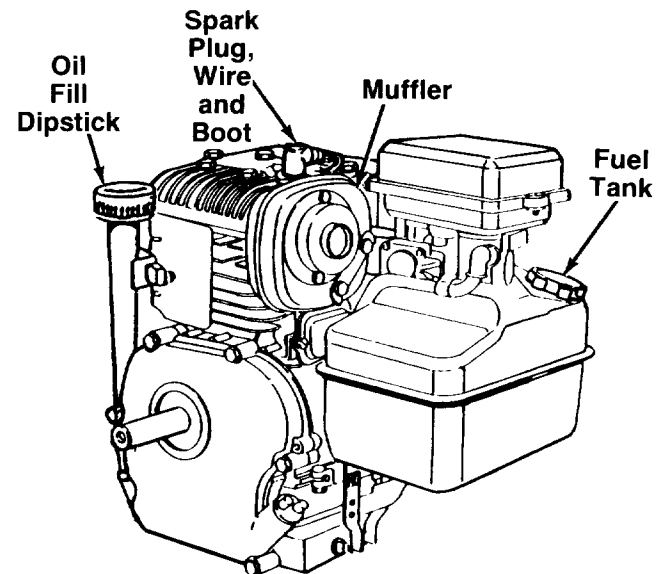

FIGURE 8.
- Remove fuel cap and fill fuel tank. See figure 8. Use fresh, clean, unleaded automotive gasoline. Capacity is 3 quarts. Replace fuel cap.
- Attach spark plug wire and rubber boot to spark plug. See figure 8.